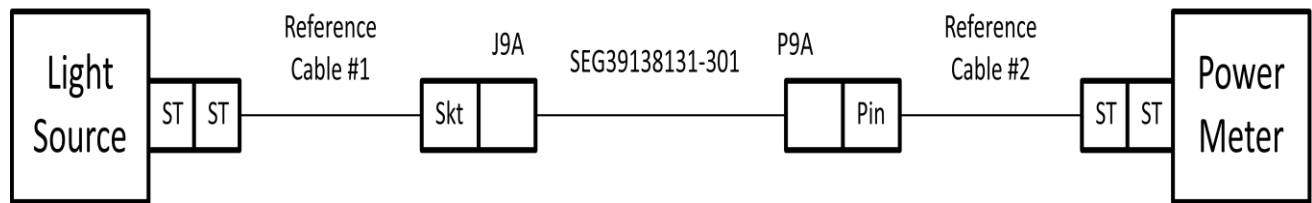

Figure 2. Insertion Loss Test J9A to P9A
2.1 Configure test setup per Figure 2.